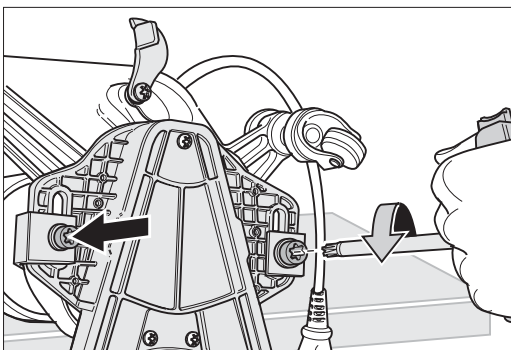

Fig. 31 Remove the two screws with which the attachment is fastened.
- 4 Use the universal spanner to remove the two screws, washers and guide angles that fix the attachment and place the parts to one side (fig. 31).